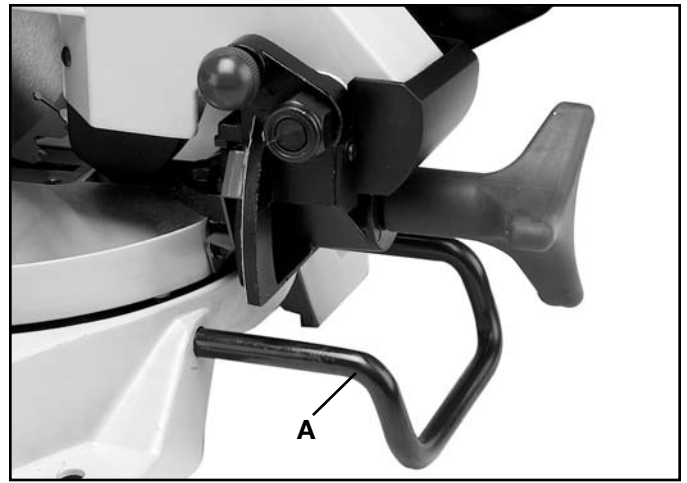

Fig. 19
A rear support bar (A) Fig. 19, is provided to prevent the miter saw from tipping to the rear when the cuttinghead is returned to the raised position after a cut has been made. For maximum support, support bar (A) should be pulled out as far as possible before attempting to perform a cut.